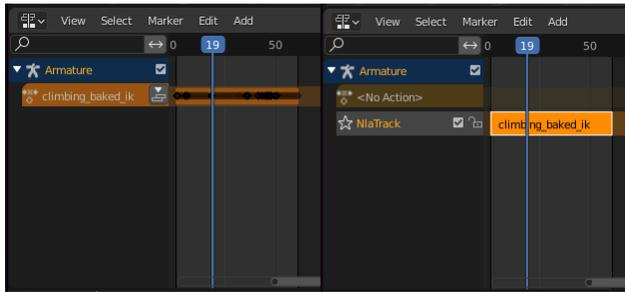

Figure 12-8 The Nonlinear Animation Editor
8. In order to make an action strip which can be repeated a number of times change the editor type to Nonlinear Animation. This view has a different section for each animated object in the scene, and each section has a list of actions in orange, for this scene there is just one object and one action. On the left of Figure 12-8 you can see that there is a button; Push Down Action that will convert the action to a strip as shown on the right of Figure 12-8, press that now for the `climbing_baked_ik` action.